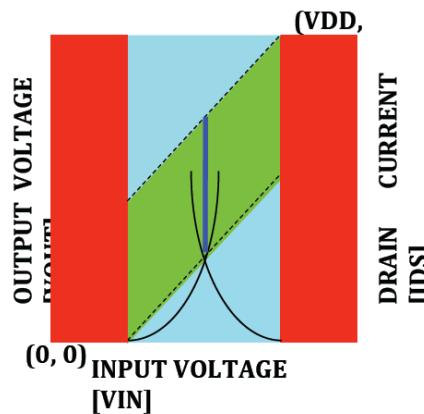

Figure 12.6: Solution to problem 5.3 a)
- In the red regions the current is zero (at least on the scale we draw it here). In the blue regions, the current equal to the saturation current for the transistor that is in the saturation region (that is the one with the lowest effective gate voltage, VGT). In the green region the current is equal to the saturation current when the two transistors have the same effective gate voltage. See Figure 12.6.